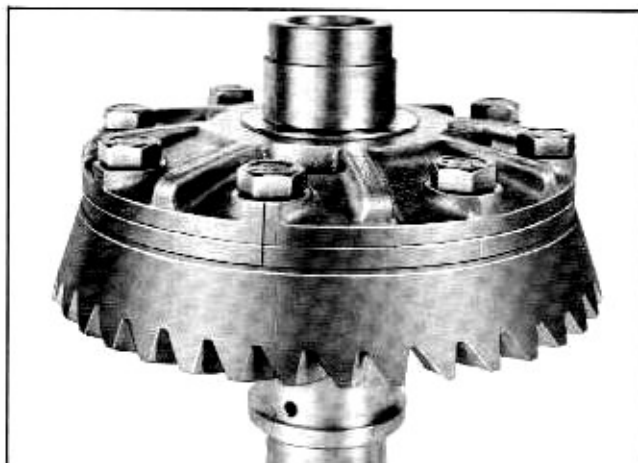

Fig. 4-26 Scribe Mark on Differential
2. A mark is scribed across parting line of differential case and cover to aid in alignment on reassembly (Fig. 4-26).